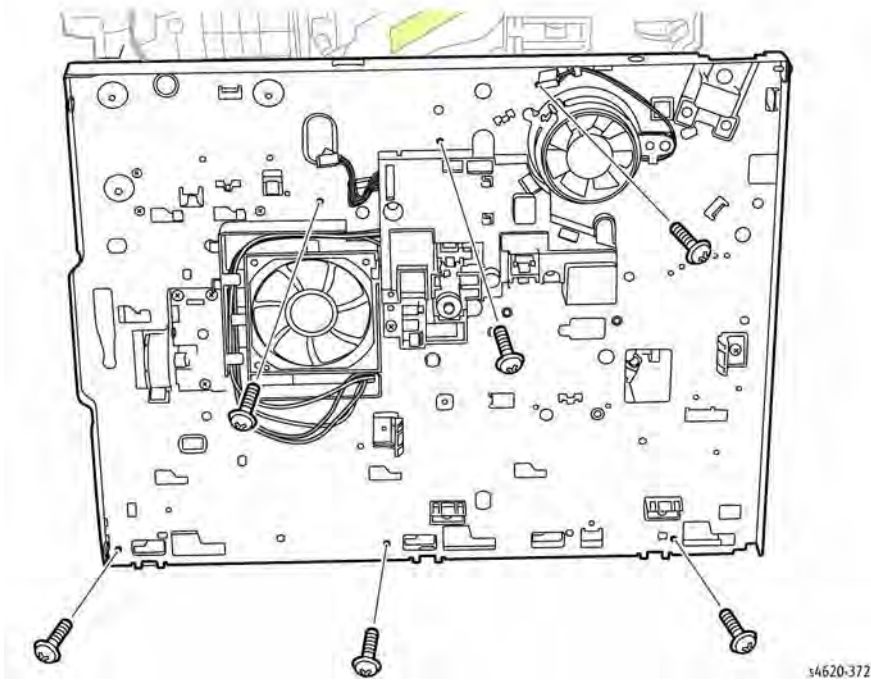

Figure 10 Remove the left side lower LSU frame and left chassis screws
29. Remove 3 (metal) screws that secure the left side of the lower LSU frame, Figure 10.
30. Remove 3 (metal) screws that secure the left side chassis to the bottom plate, Figure 10.